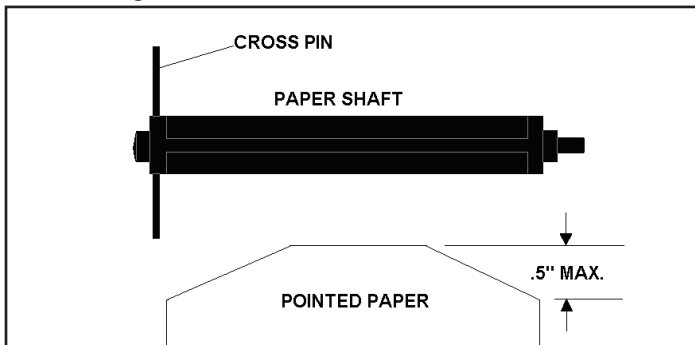

Figure 12: Prepare Paper
6. Cut the front edge of the new printer paper roll, (part #628028) to a blunt point (See Figure 12). Cuts must be clean and sharp with no ragged edges.
8. Place the paper shaft in the core of the new paper roll, with the cross pin (See Figure 12) on top.